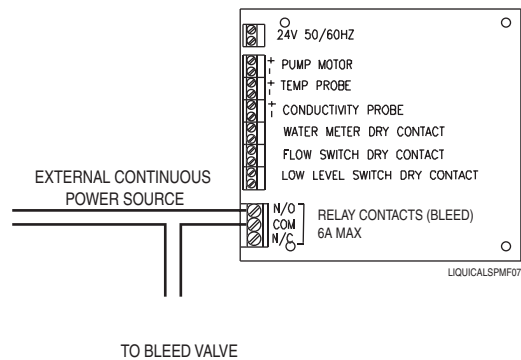

Figure 7. Wiring Bleed Valve from External Power Source
2. Wire the bleed valve from an external power source of the desired voltage in the manner shown in **Figure 7**.
To clean or replace the duck bill valves in the piston pump assembly, refer to **Figure 7** and use the following procedure.